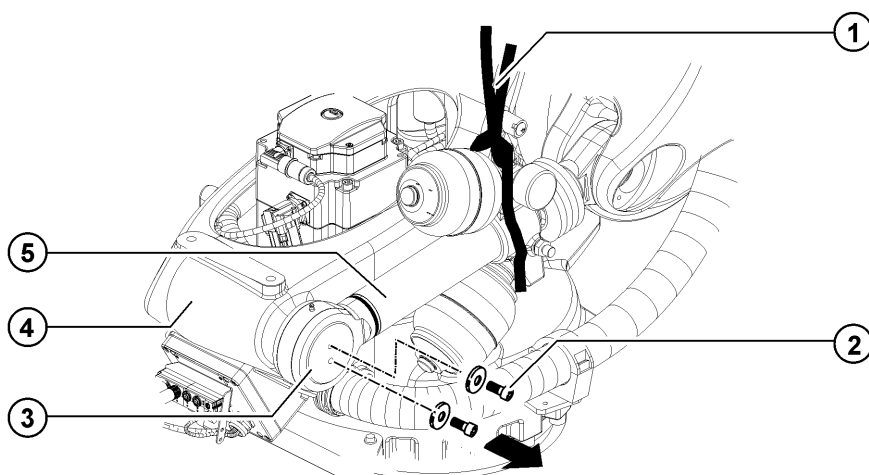

Fig. 11-21: Removing the counterbalancing system: rotating column
9. Remove 2 Allen screws and lock washers, and take the cover off the rotating column (>>> Fig. 11-21).